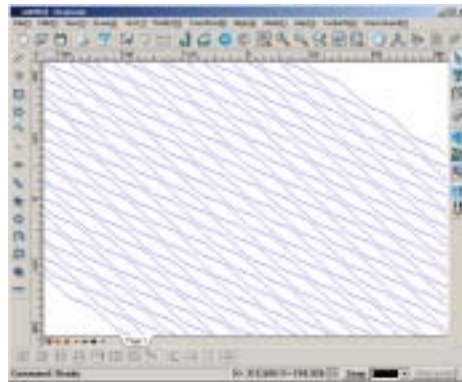

Fig. 8
3. Duplicate the tool path. (Fig. 8)